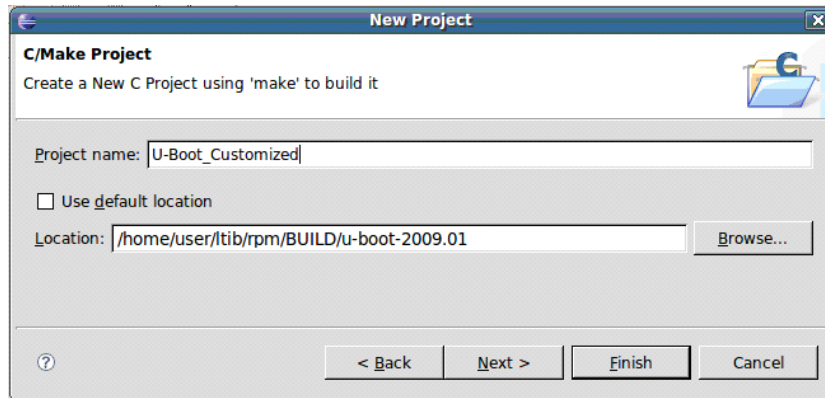

Figure 2. Project Name and Location
3. In the C/Make Project window, type a project name in the box and un-check the Use default location checkbox as shown in Figure 2.